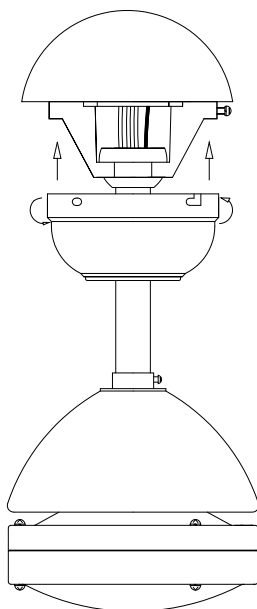

Fig. 8
Step 3. Install the remaining two mounting screws into the holes in the canopy and tighten firmly. (Fig. 8)